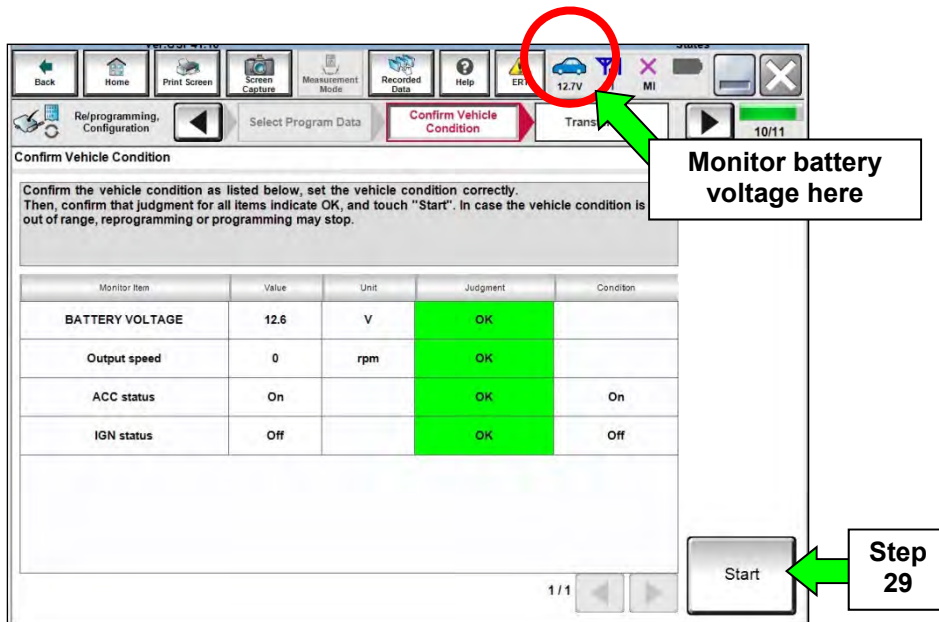

Figure 15
- Make sure the IGN status judgement changes to **OK**. See Figure 15.